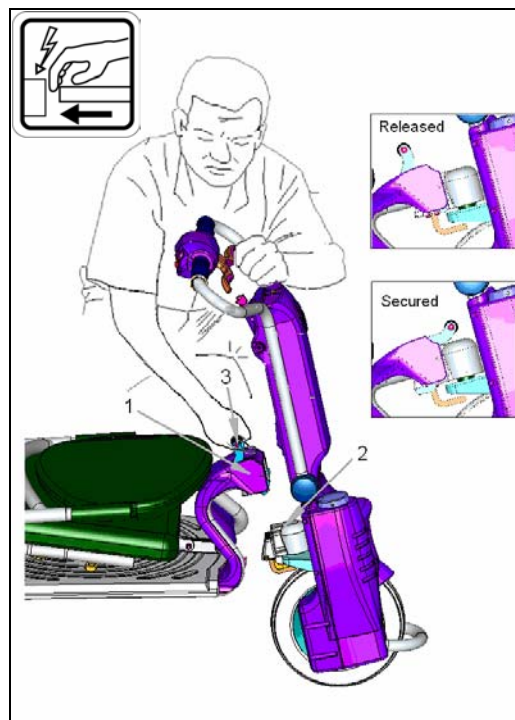

Figure 15
As shown in figure 15 . Pull the lock lever upward and backward to release position . Now pull with the lever the frame bushing (1) upward to separate it from the tiller tapered block . The electrical disconnection is being done at the same action .